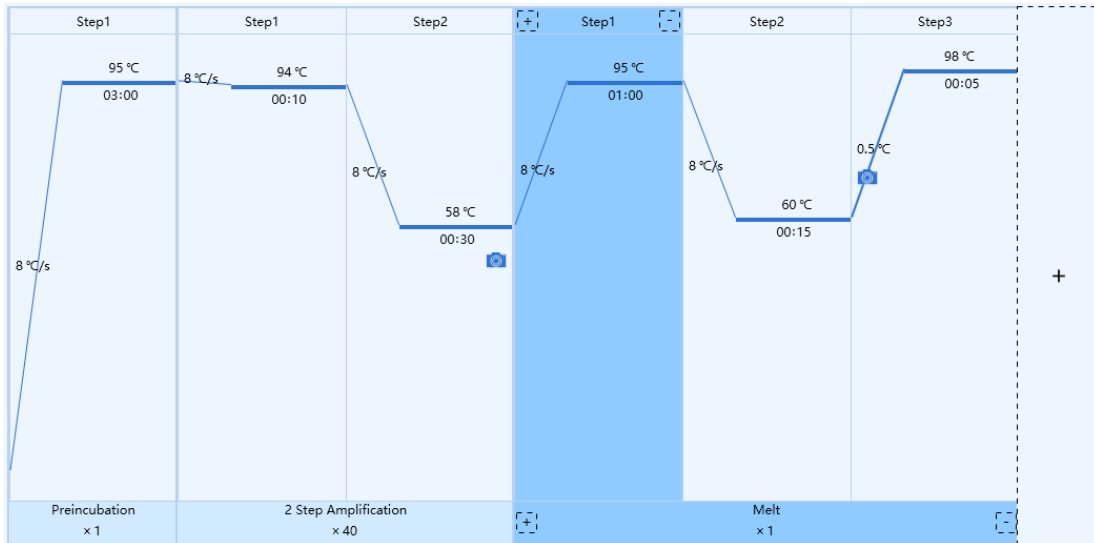

Figure D-5.1. Temperature Program Area – Example Temperature Program
1. **Temperature Program Area**: user can view the temperature program of the current experiment, or edit the temperature program stages and steps in this area, as shown in figure D-5.1.